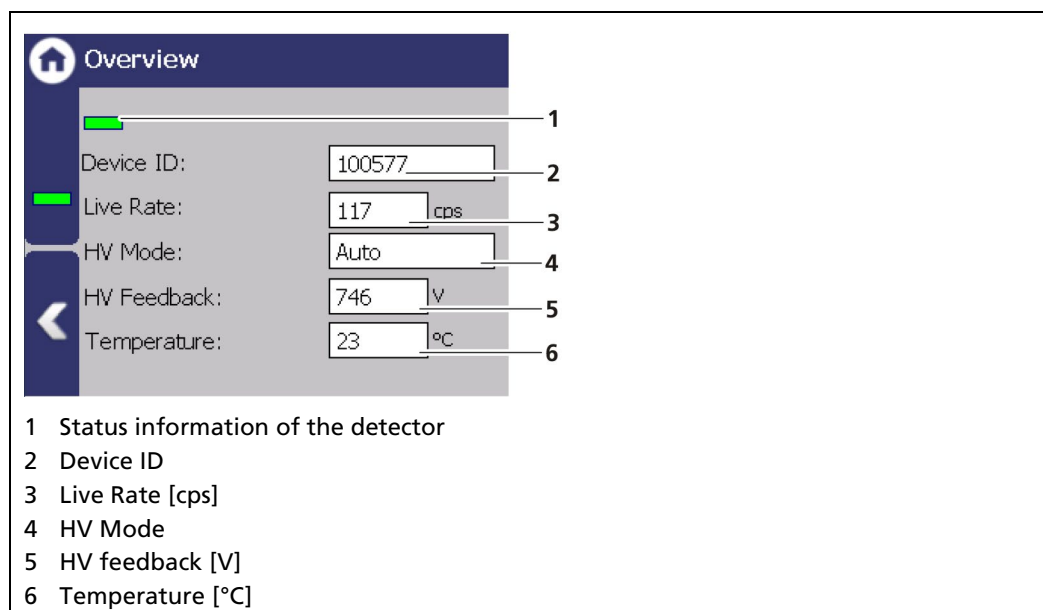

Fig. 57 Overview Detector Information
A green bar appears with error-free status of the detector (Fig. 57, item 1).
The "Live Rate" (Fig. 57, item 3) displays the current, unfiltered count rate.
In the field "HV mode" (Fig. 57, item 4), the HV mode is displayed, which is chosen under [Device settings | Setup | Sensors | \[NAME DETECTOR\] | High voltage | HV settings](#).
The field "HV Feedback" (Fig. 57, item 5) displays the actual measured value in volts.
The field "Temperature" (Fig. 57, item 6) indicates the current temperature of the detector in C°.